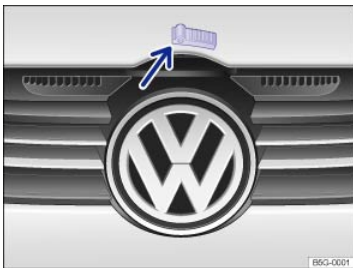

Fig. 173 Above the radiator grille: Outside engine hood release.
- Push the outside hood release lever ⇒ Fig. 173 (arrow) and lift the hood all the way up. A gas-pressure strut will hold the hood up.